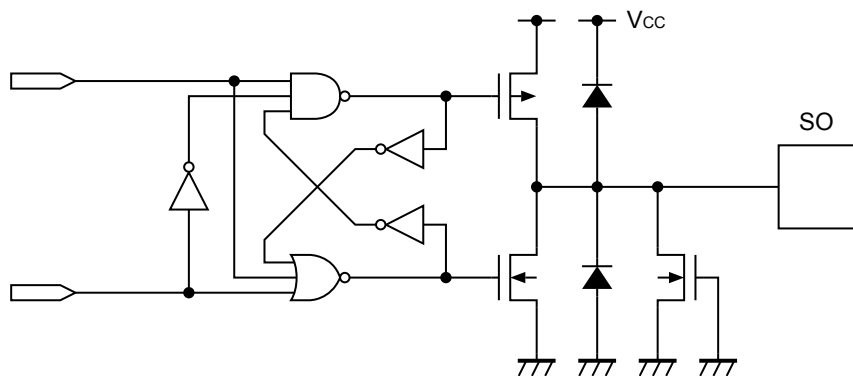

Figure 24 SO Pin
**Figure 24** shows the equivalent circuit of the output pin. This pin has the tri-state output of "H" level / "L" level / high impedance.